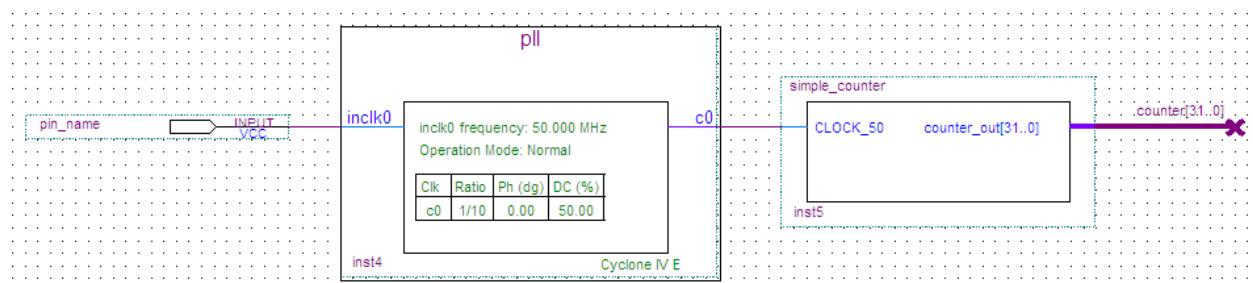

Figure 3-18 Connecting the PLL symbol and Input port
- Use the mouse to click and drag the new input pin to the left; notice that the ports remain connected as shown in **Figure 3-18**.